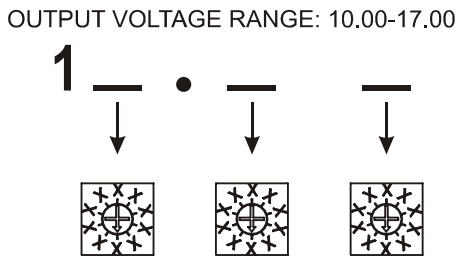

Figure 8.1
is 13.62 volts, set the left switch to 3, the middle switch to 6, and the right switch to 2 (see the figure 8.1). This will provide you with the proper charging voltage. The tens digit is always a one (1) and cannot be changed. **BE SURE EACH SWITCH IS SET ON A NUMBER AND NOT BETWEEN NUMBERS.** If a switch is set between numbers, the output current will go to zero and the yellow charging LED will flash.